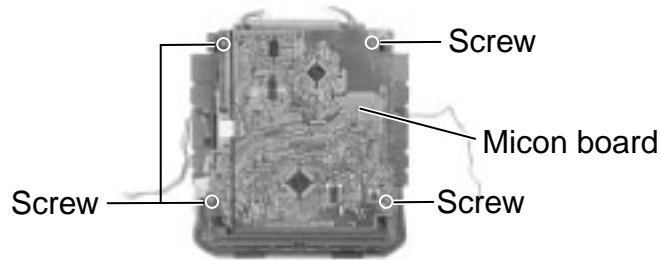

Fig.1
1. Remove the four screws attaching the micon board as shown in Fig1.